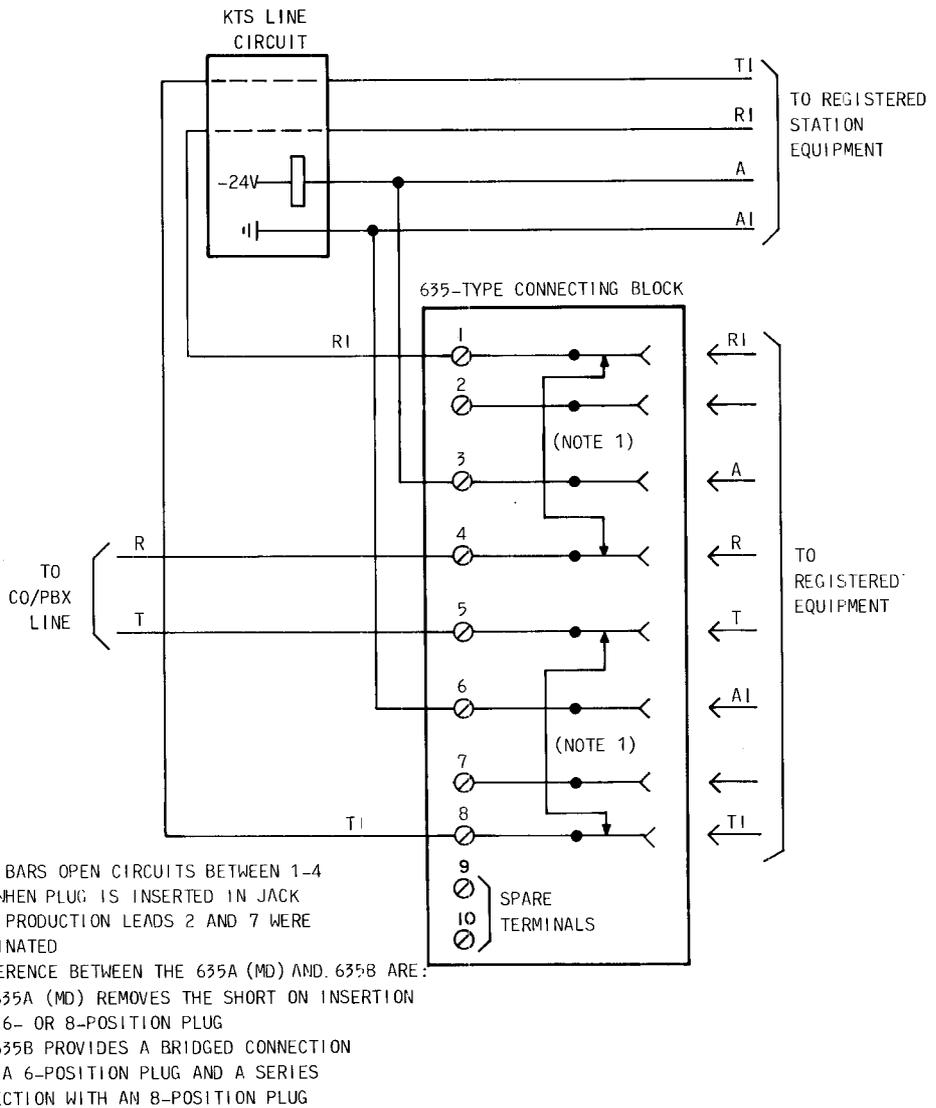

Fig. 5—Connections for USOC RJ33X
2.04 USOC RJ33X: Provides a series connection of the tip and ring of a KTS line ahead of the line circuit because the registered equipment requires CO/PBX ringing and a bridged connection of A and A1 from behind the line circuit. It provides the busy feature at other stations in the same KTS (Fig. 5). Tip and ring are the only leads opened when the plug is inserted in the 635-type connecting block. Typical usage would be for registered automatic dialers or call restrictors. Access to the required leads can be anywhere leads are available, but tip and ring must be ahead of the line circuit.